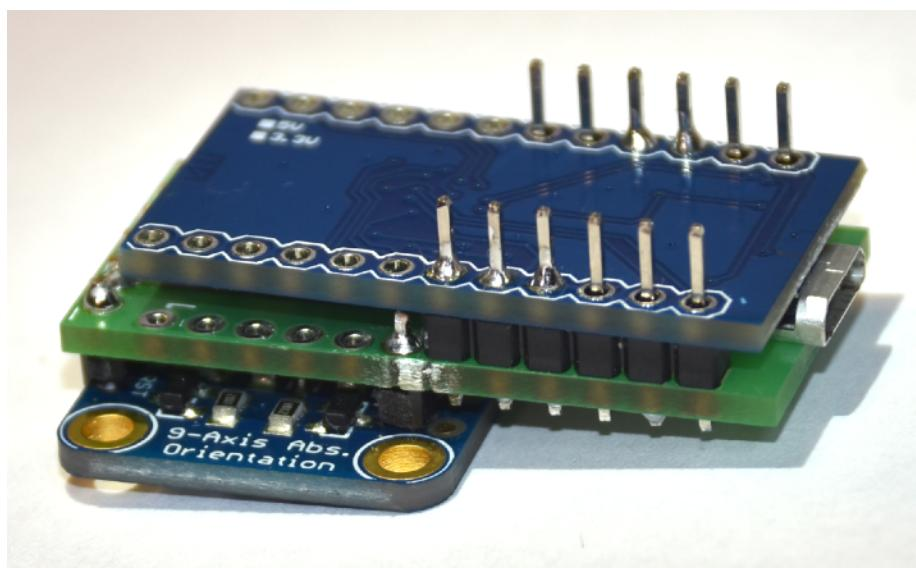

Figure 16: circuit board with sensor
**Notice!** The sensor must be mounted upside down, the components must face the circuit board (Figure 16). The six pins must be soldered in this position, otherwise the alignment will be shifted and the connections will not match correctly.